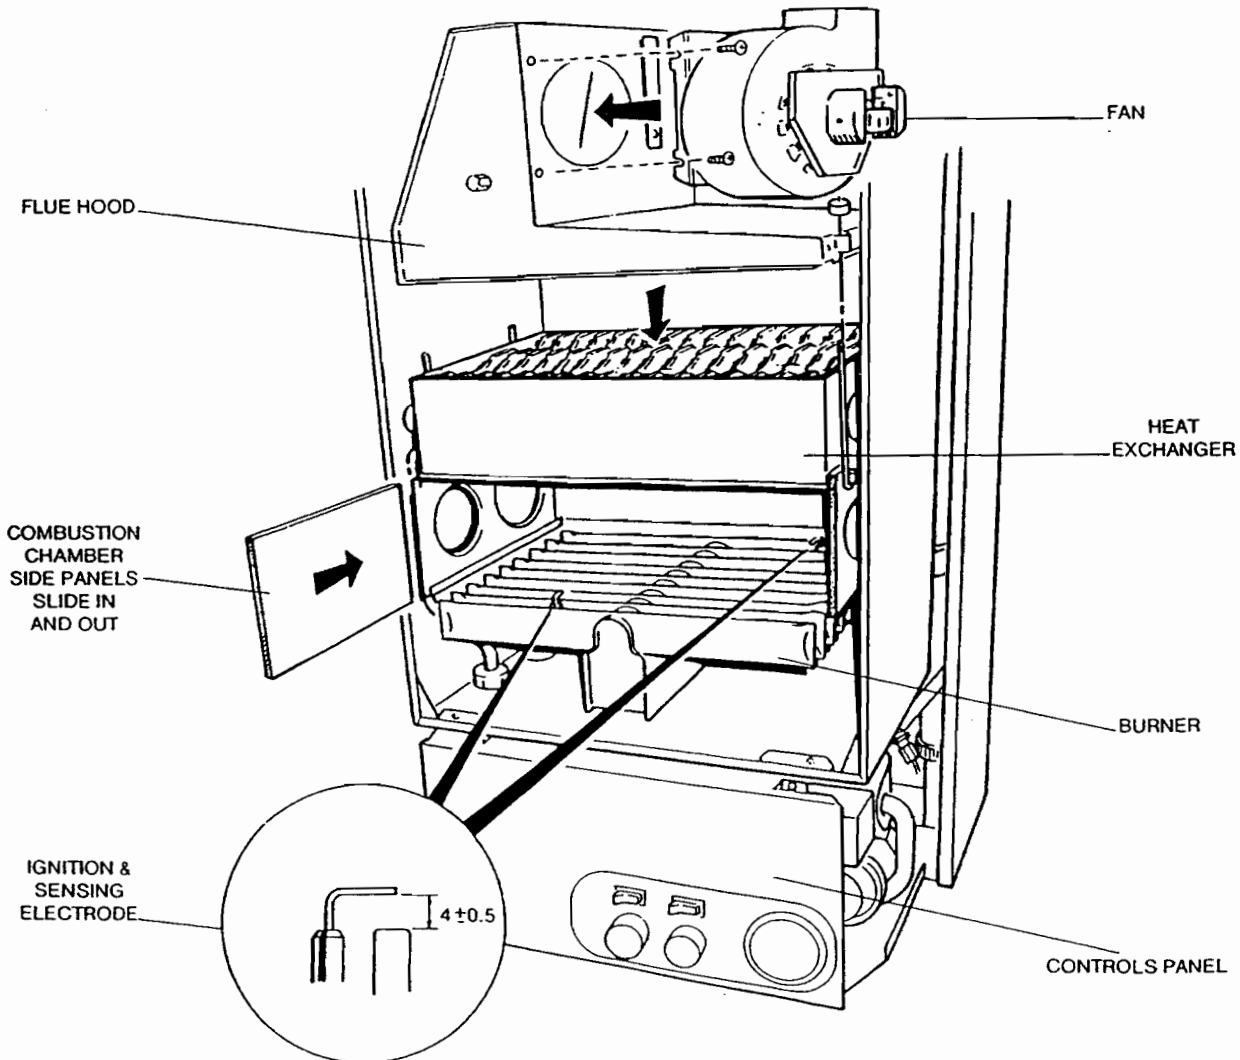

Fig. 21
7. **TO INSPECT AND CLEAN THE APPLIANCE** (See Fig. 21)
- e. Inspect the main burner and remove any deposits with a soft brush. Check the electrodes for damage or deterioration. Ensure that the spark gaps are correct to dimensions specified in Fig. 21. Clean or renew as necessary. Do not bend the electrodes as the insulating material may crack
3. SENSOR AND IGNITION ELECTRODE (See Fig. 21)
5. BURNER (See Fig. 21)